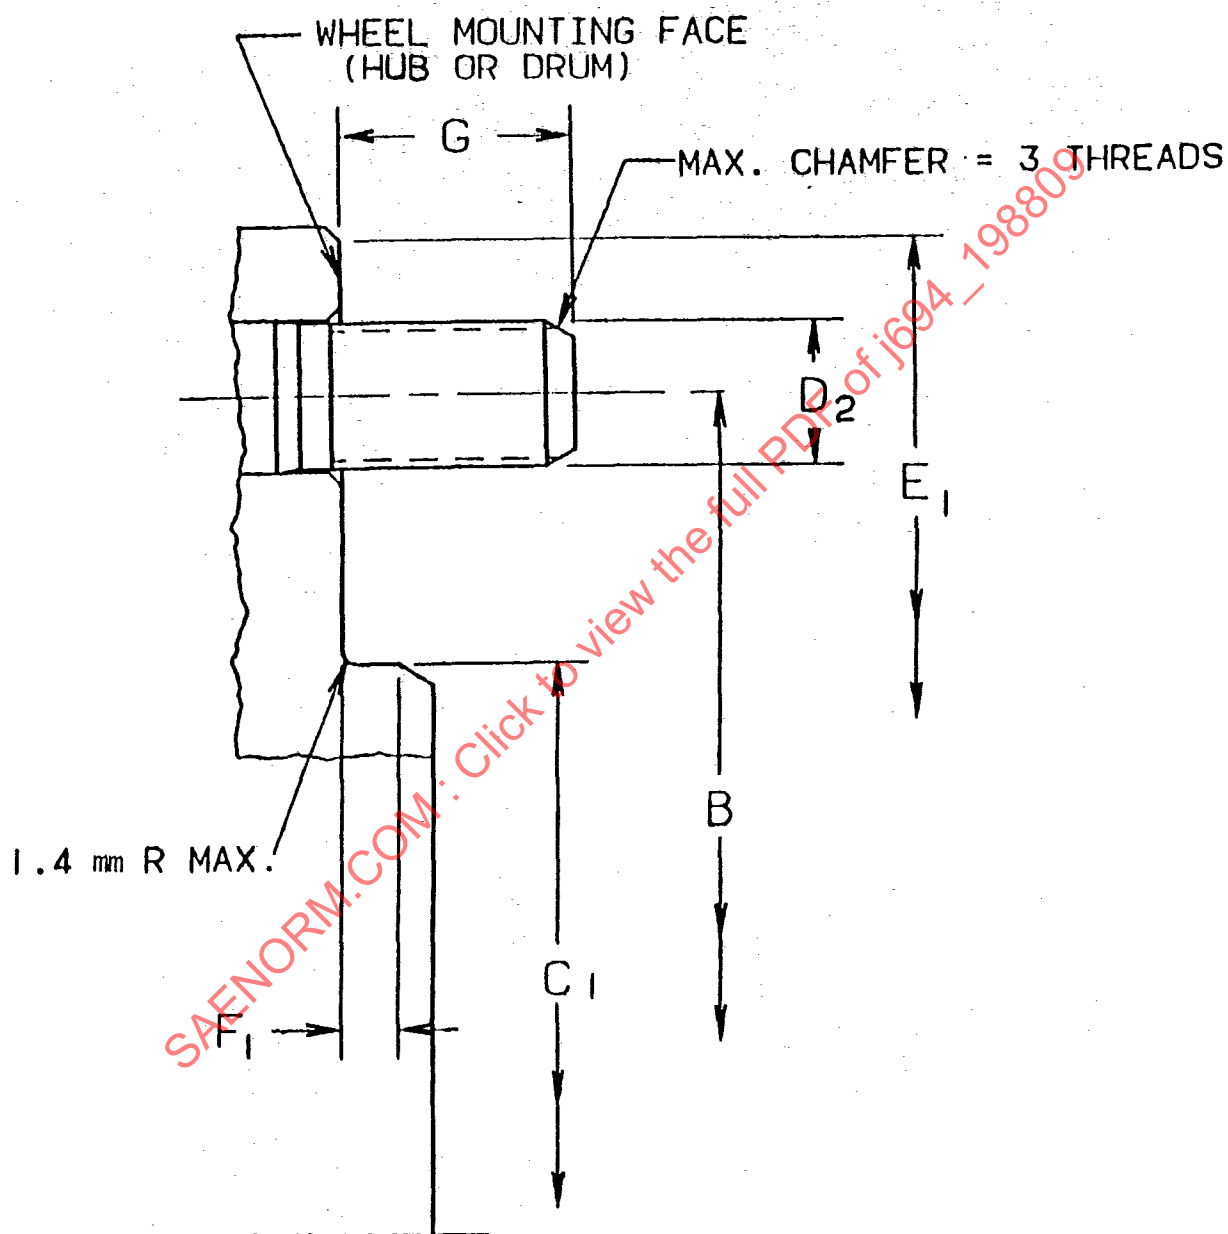

FIGURE 7 - Hub or Drum Interface Dimensions
6.2.1 Definitions of Hub or Drum Interface Dimensions (Ref. Fig. 7):